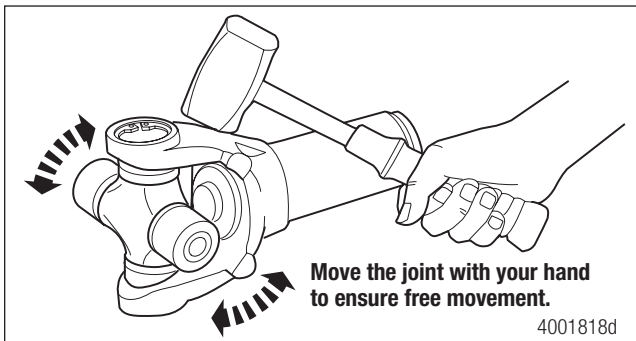

Figure 5.23
- Strike the yoke ear with a brass or copper hammer to ensure that the universal joint moves freely. Figure 5.23.